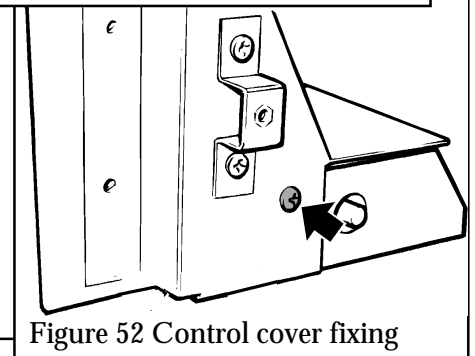

Figure 52 Control cover fixing
15.9.5 Detach the control unit cover by removing one screw (see figure 52).